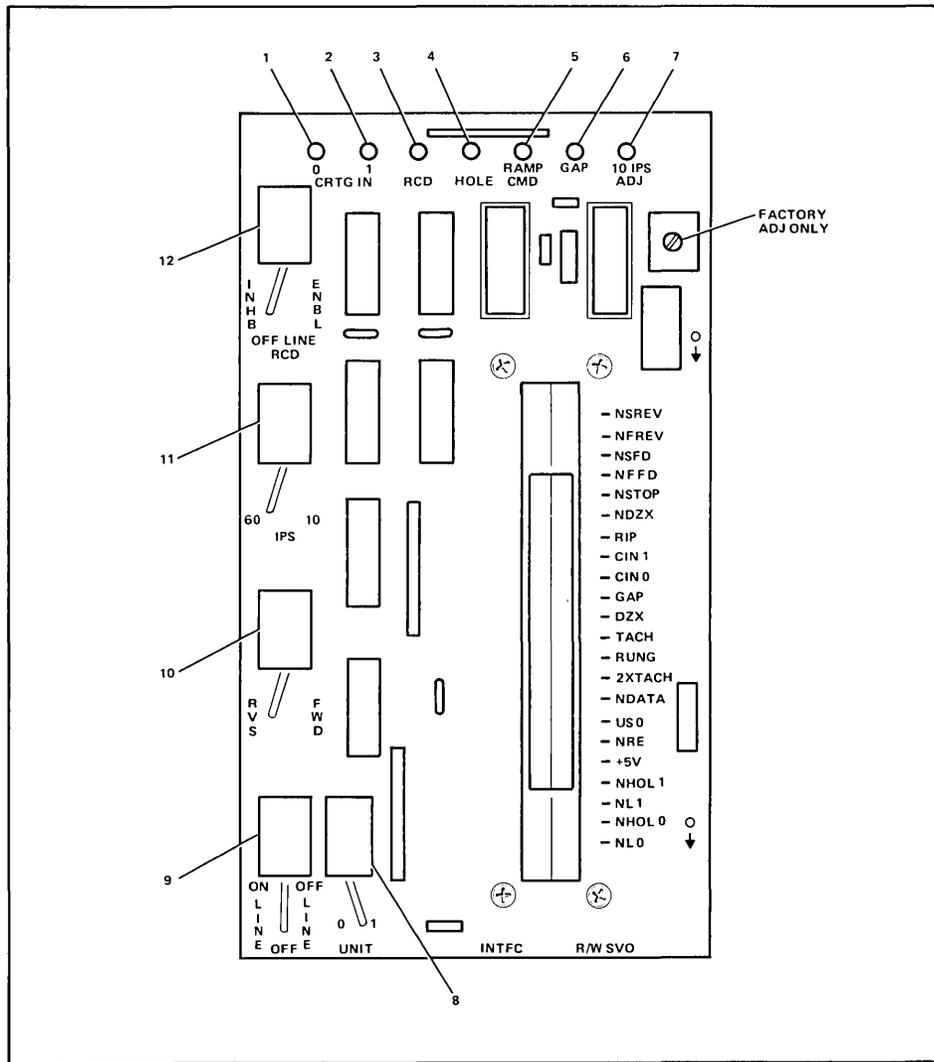

Figure 6-19. CTU Tester Controls and Indicators
**CONTROLS AND INDICATORS** ..... The CTU tester controls and indicators are shown in figure 6-19 and described in table 6-7.